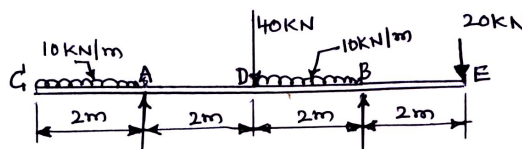

Fig.Q.6(b)
- b. Draw the Shearforce and bending moment diagrams for the beam shown in Fig.Q.6(b). (14 Marks)